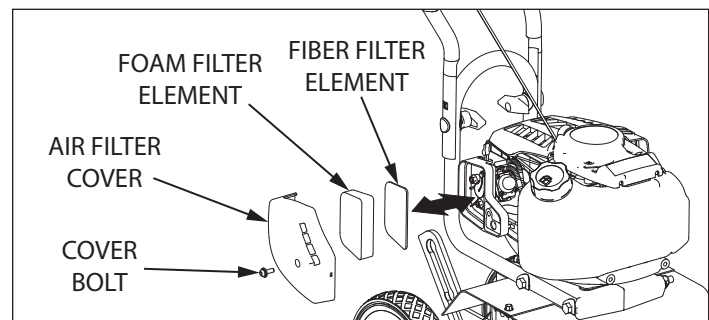

FIGURE 11
3. Remove the foam filter and fiber filter elements. Replace with a new fiber filter and a new oiled foam filter (**SEE FIGURE 11**), or clean the original foam and fiber filters with warm water and mild soap. Remember to thoroughly oil the foam filter with 30 or 40 weight motor oil and squeeze out any excess oil before reinstalling it. Make sure to press the foam filter evenly into place over the fiber filter to ensure that the foam is fully seated into its sealed position.